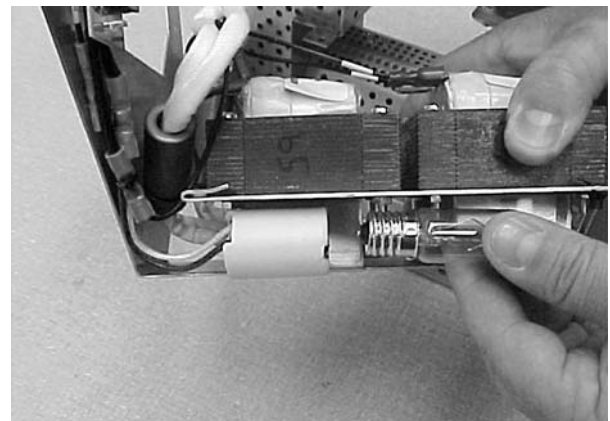

Figure 4-16 Starter Bulb Replacement
2. See Figure 4-16. Cut or remove the threadlocking material from the base of the bulb to remove the bulb.